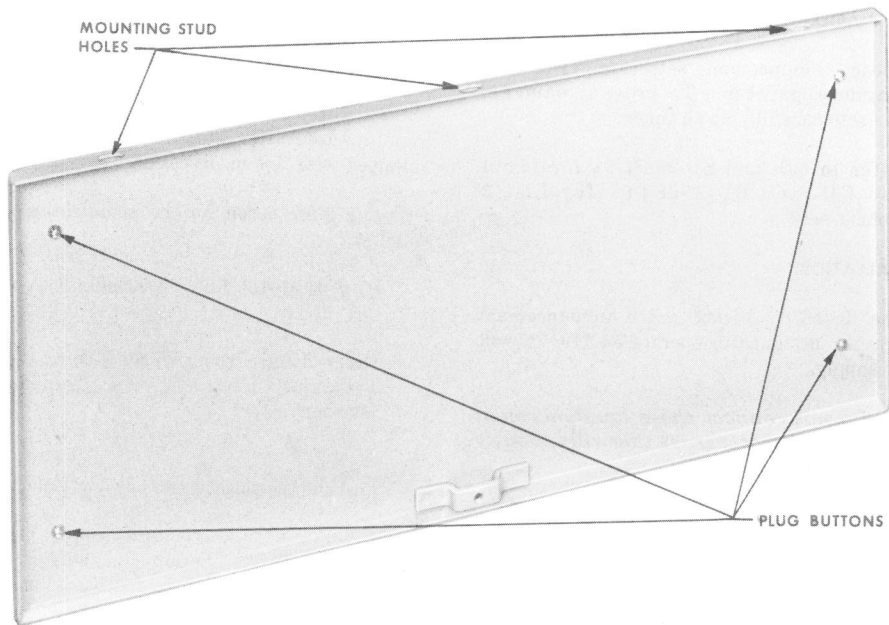
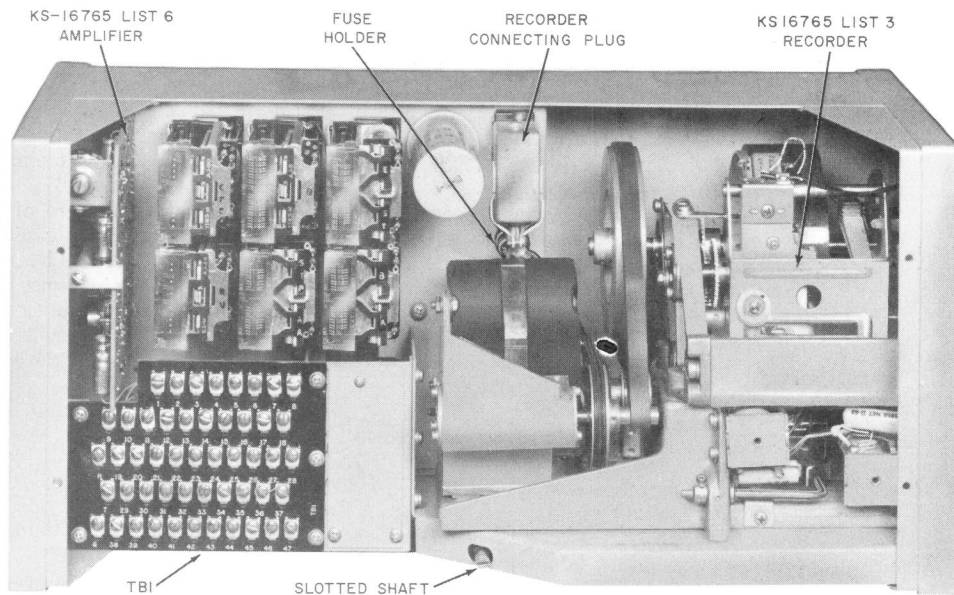
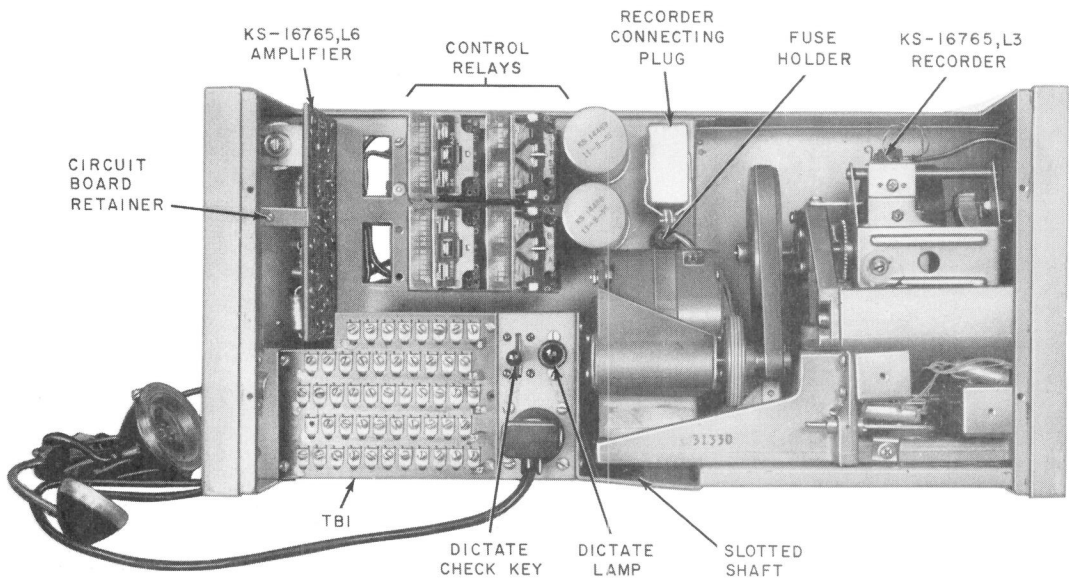

Fig. 2—KS-16765, Lists 1 and 2, Rear Cover
Fig. 3—KS-16765, List 1 Announcement Set, Front Cover Removed
Fig. 5—KS-16765, List 2 Announcement Set, Front Cover Removed
**2.11** Refer to the appropriate sections to install the telephone set, cable, drop wire, connecting block, and inside wiring used with a List 1 set (Fig. 3 and 4) and to install the inside wiring used with a List 2 set (Fig. 5 and 6).
- (3) Remove the four plug buttons from announcement set rear cover (Fig. 2).
- (4) Mount rear cover to wall surface using four No. 14 screws or equivalent.
- (5) Hold set with top tipped slightly back. Insert the three mounting studs (Fig. 3 and 4) located on the underside of the top of the set into the three mounting stud holes in the top edge of the rear cover.
- (6) Tighten slotted shaft by turning clockwise with a screwdriver. This locks set to rear cover.